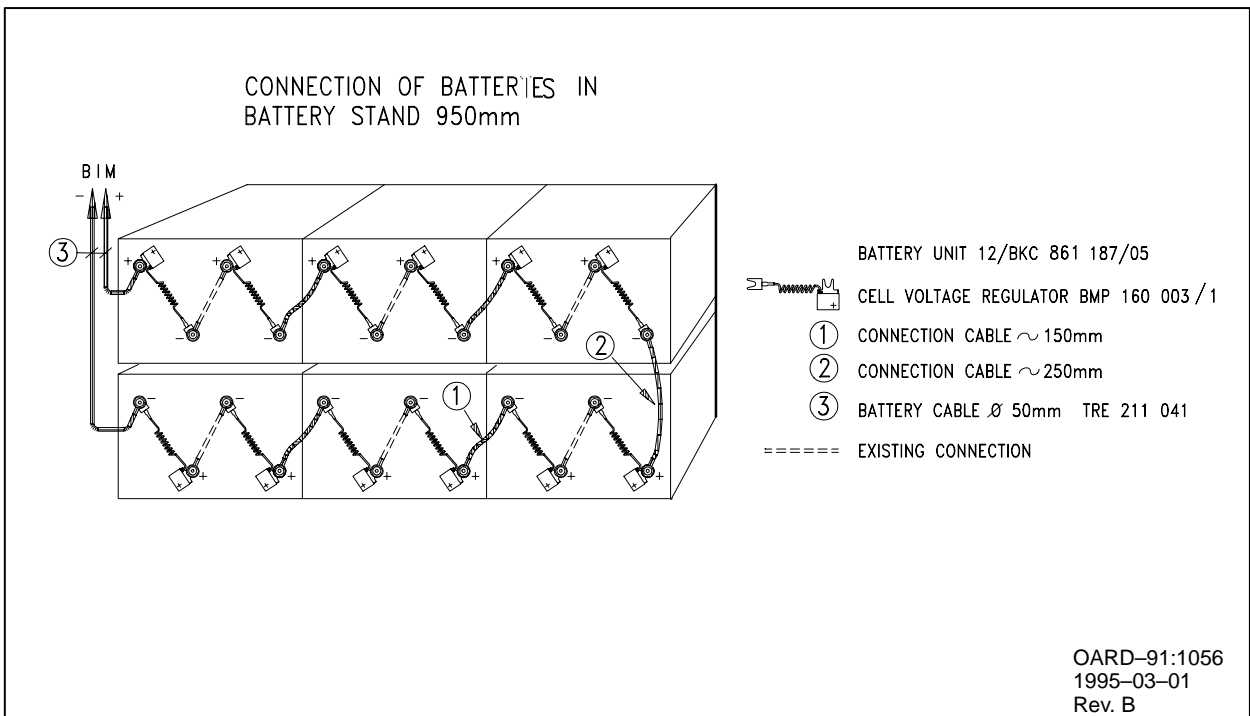

Figure 4 187 Ah Battery Back-up: Connection of Batteries and 4.5V/cell Block Voltage Regulators
- 187 Ah back-up, 4.5V/ cell block, see figure 4.
4. Make sure that battery and cabinet circuit breakers of all interconnection modules are in the "OFF" position. See Figure 4 in section 4.0.0.
Switch on all cabinet and battery circuit-breakers by setting them to position "ON", refer to Figure 4, section 4.0.0	The load contactors are energised, green LED "Communication" on the the interconnection modules light up. The red LED "Err" goes out and the A2 alarm on the PCU ceases. The system voltage increases to the set desired value \pm 0.5V.